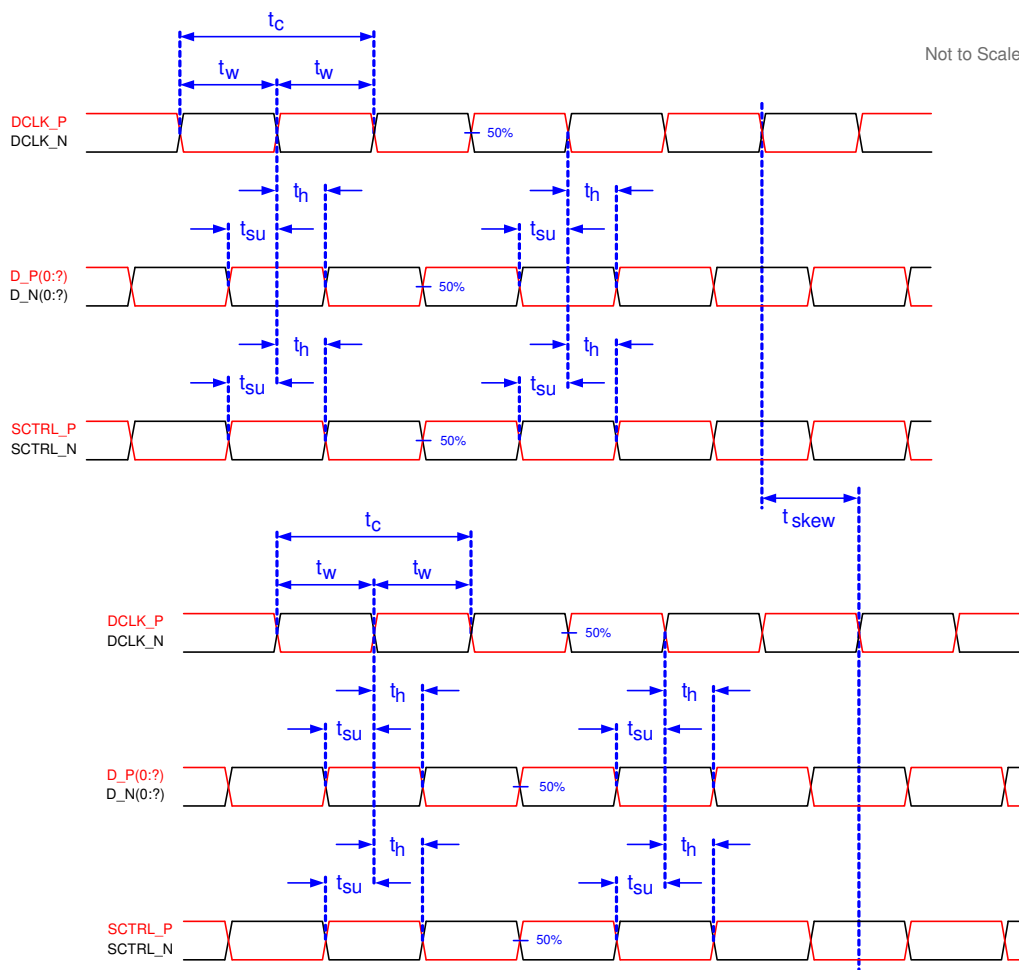

Figure 5-6. Timing Requirements
- (7) See LVDS Timing Requirements in Section 5.8 and Figure 5-6.
(1) See Figure 5-6 for timing requirements for LVDS.
(2) Channel A (Bus A) includes the following LVDS pairs: DCLK_AN and DCLK_AP, SCTRL_AN and SCTRL_AP, D_AN(15:0) and D_AP(15:0).
(3) Channel B (Bus B) includes the following LVDS pairs: DCLK_BN and DCLK_BP, SCTRL_BN and SCTRL_BP, D_BN(15:0) and D_BP(15:0).